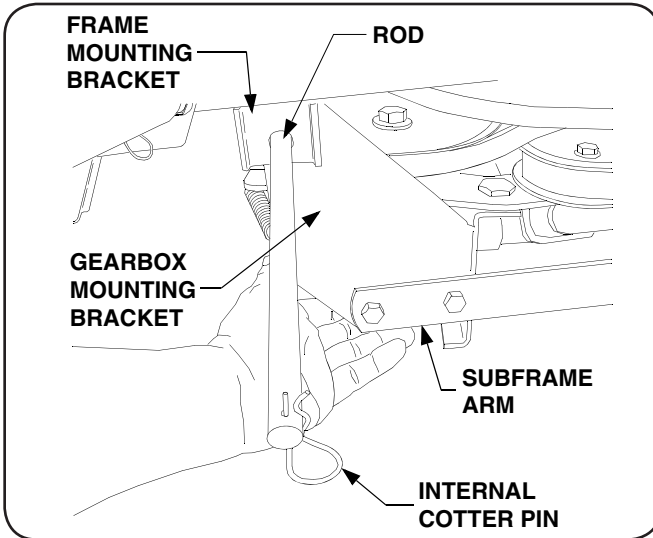

Figure 5-8
11. Install an internal cotter pin (2, Fig. 3-2) into one end of the rod (3, Fig. 3-2). Refer to Figure 5-8.
12. Lift the gearbox mounting bracket /sub-frame assembly up between the frame mounting brackets (1, Fig. 3-2) installed earlier on the tractor. Align the holes and slide the rod (3, Fig. 3-2) through the frame mounting brackets and the gearbox mounting bracket. Install the other internal cotter pin (2, Fig. 3-2) into the other end of the rod. See Figure 5-8.
4. Remove the internal cotter pin from one end of the rod (3, Fig. 3-2). Support the gearbox mounting bracket and withdraw the rod from the frame mounting brackets (Refer to Figure 5-8). Lower the subframe to the ground.